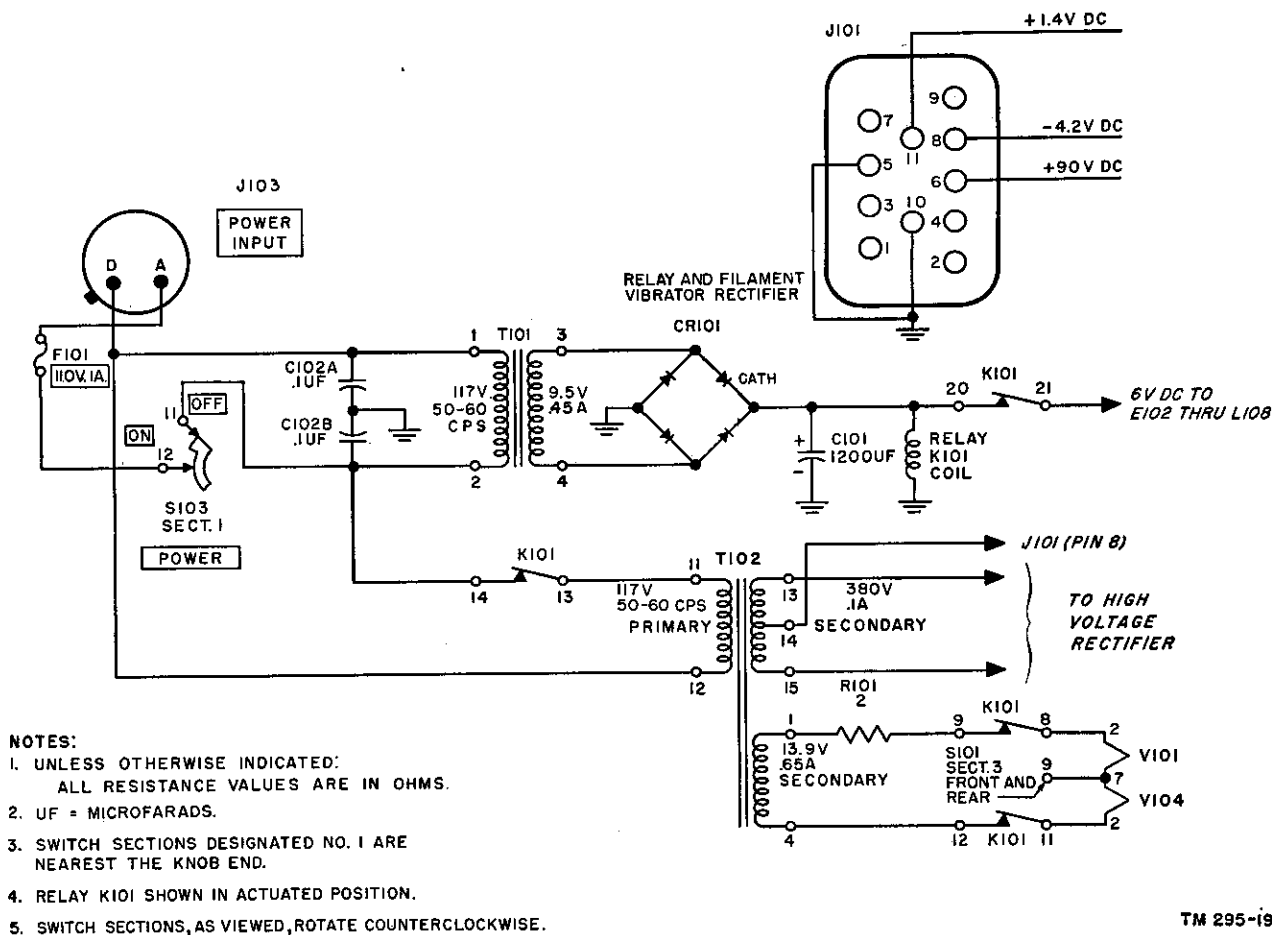

Figure 18. Power Supply PP-308/URR, 115-volt a-c operation, functional schematic.
*b.* For 115-volt a-c operation, the line voltage is stepped down by a transformer and the lower voltage is supplied to rectifier CR101 (fig. 18). The rectified voltage energizes relay K101. When relay K101 is energized, the 115-volt a-c line is completed to the rectifier circuit associated with V102, and the output of rectifier CR101 is supplied to filament voltage vibrator E102. Bias and hv (high voltage) are developed by the circuit associated with V102. Filament voltage is developed by V104, E102, and CR102. Regulator tubes V101, V103, and V104 maintain substantially constant output voltages.
#### 46. Analysis of 115-volt A-c Operation (fig. 18)